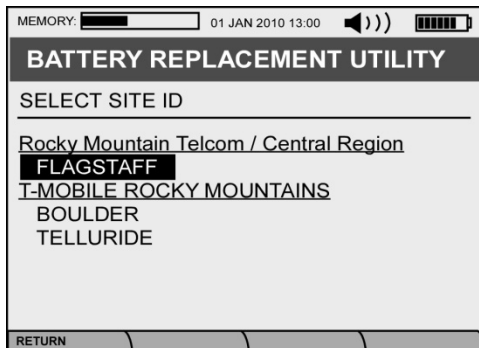

Figure 5.3. Battery Replacement Utility Screen 1.
- (1) To access the **BATTERY REPLACEMENT UTILITY** screen, the user must first navigate through two (2) screens (**Figure 5.3** and **5.4**) to locate the batteries or cells to be replaced.